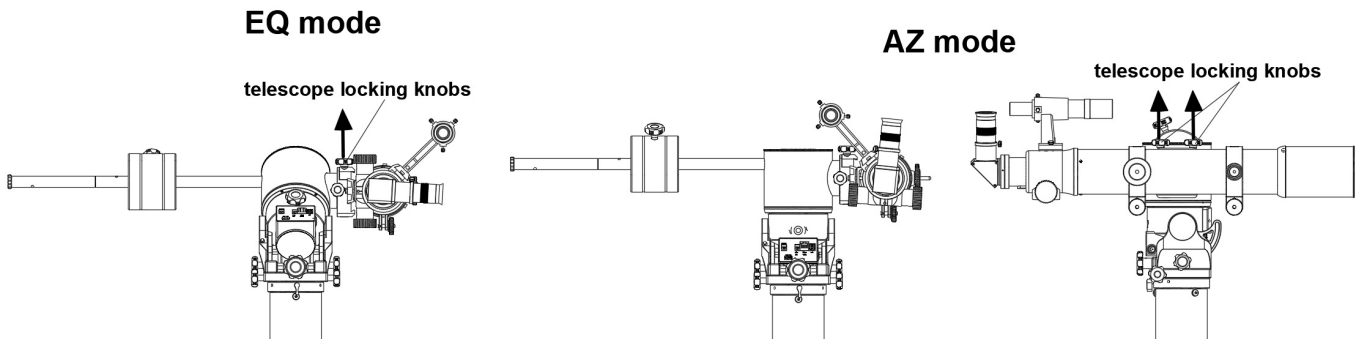

Fig. 10
* Use the SynScan Pro app to slew the two axes and level the telescope with the telescope locking knobs on the upper side.(Fig.10)